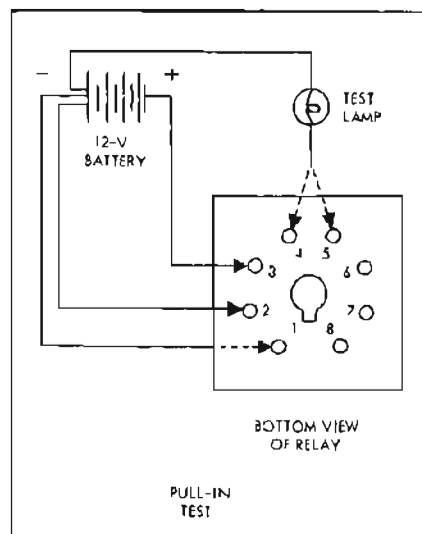

Figure 11-181—Relay Pull-In Check
(1) Connect pins 1 and 2 to the negative terminal of a 12 volt battery. See figure 11-181.
(2) Connect pin 3 to the positive terminal of the battery
(3) When the connection to pin 3 is made, the relay should not pull in. A checking sound will be noted if the relay pulls in and indicates the relay is defective and must be replaced.
(4) Perform Pull-In check.